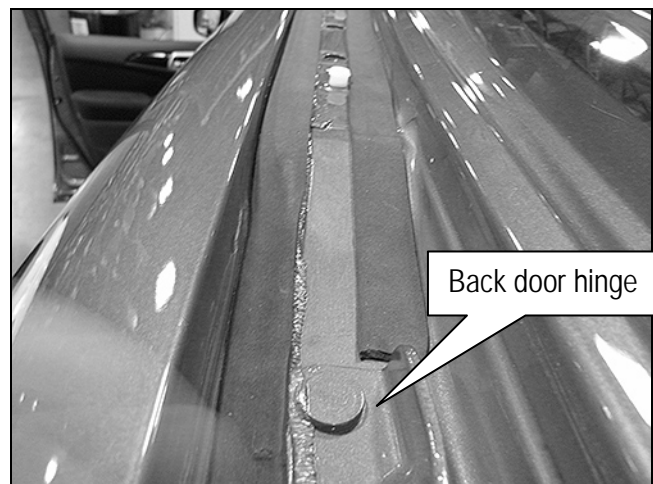

Figure 12
- h. Cut the excess foam tape to approximately the length shown in Figure 12.